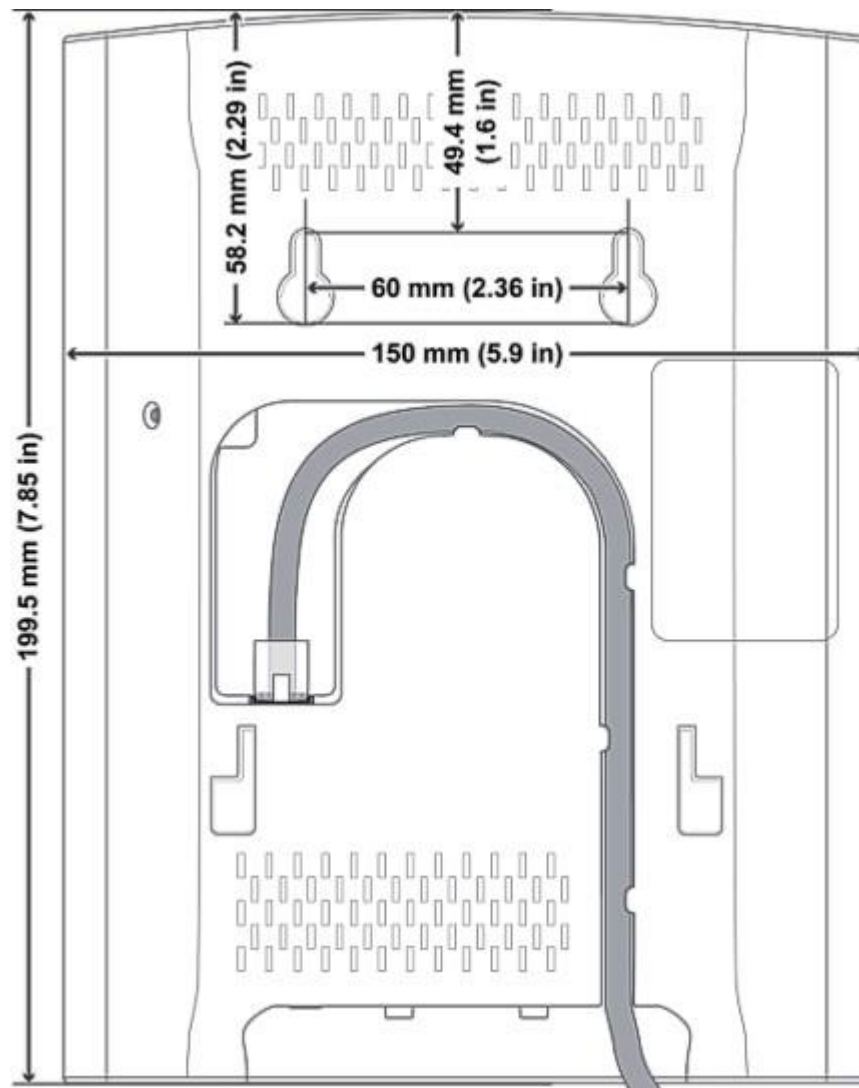

Figure 2-174 Base Mounting Dimensions
4. Connect the Ethernet cable and route the cord as shown in Figure 2-174 Base Mounting Dimensions.